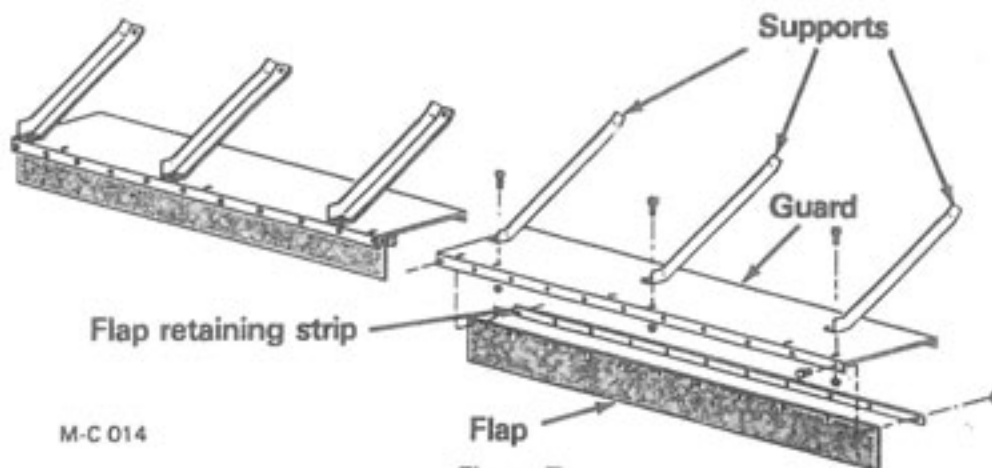

Figure 7
1. Assemble the stone guard flaps and retaining strips to the stone guards as shown in Figure 7 and 8. Use $\frac{3}{8}$ "-16 X 1" hex-head capscrews and locknuts.